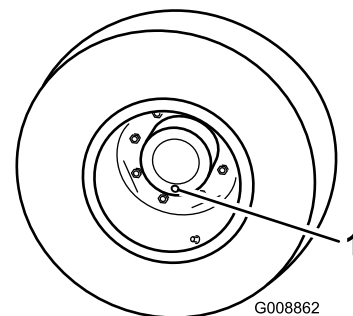

Figure 61
1. With the machine on a level surface, position a wheel so a check plug is at the lowest (6 o'clock) position (Figure 61).